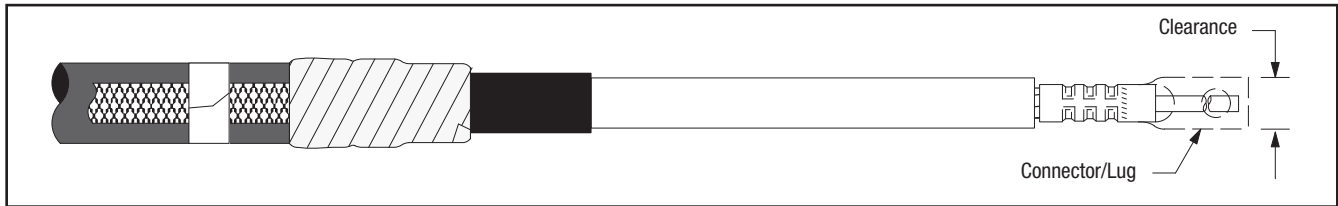

Figure 6
- 4.1 **Check to insure 3M Cold Shrink QT-III Silicone Rubber Termination assembly fits over the selected lug or connector BEFORE installing the lug or connector.** If lug or connector. (Figure 6) will not fit through the termination core, clean the insulation (per Step 5.0) and slide termination on cable before installing lug or connector. **DO NOT REMOVE CORE AT THIS TIME.**